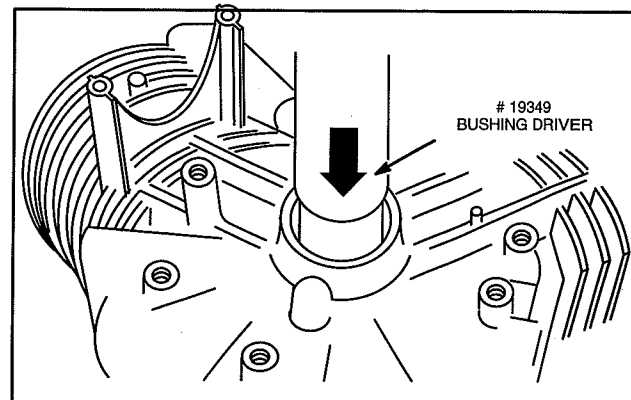

Fig. 12 – Install Mag Bearing
1. Place cylinder on cylinder support, Tool #19227 with large opening facing bearing, Fig. 12.